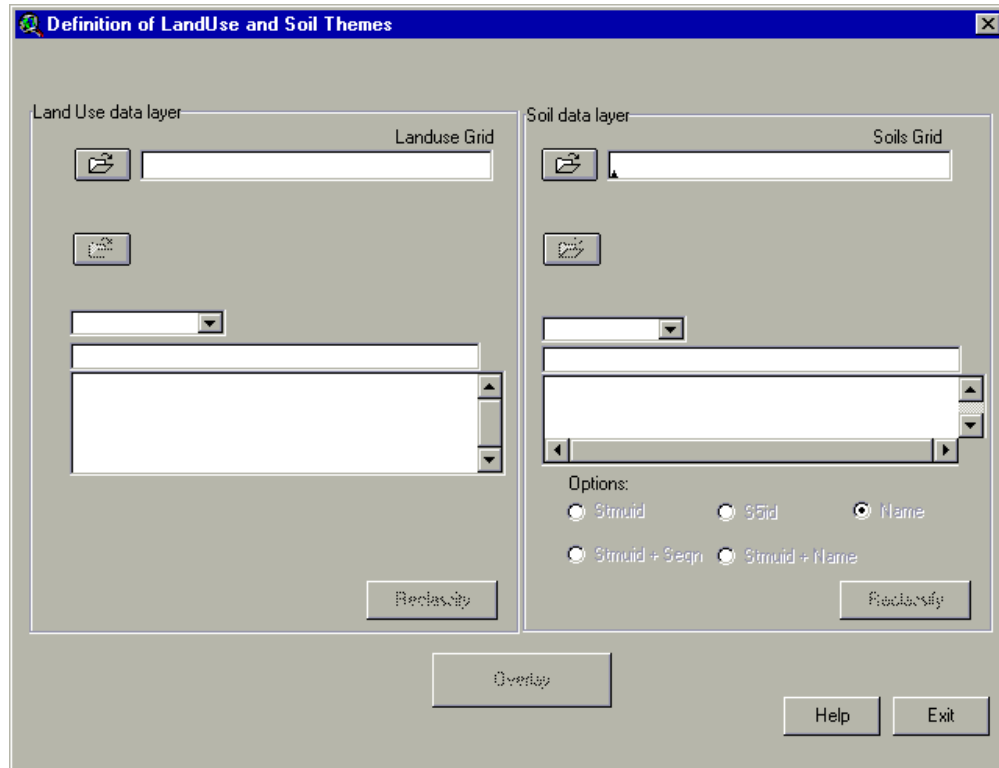

Figure 15.28
- The Definition of Landuse and Soil themes dialog box will open (Figure 15.28).